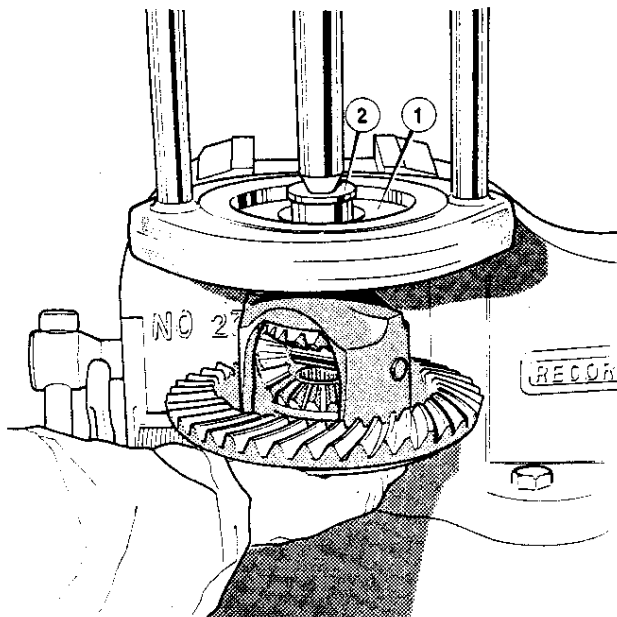

Figure 7 Removal of differential bearing using collars, adapters and hand press
6. Using a hand press, General tool No. 47, and collars RT 8764/1, with adapter RT 8764/2, remove the differential bearings as follows: Feed the differential unit in to the hand press and fit into the cone of the tool. Ensure that the bearing fits securely into the collars and the rollers on the bearing and fit the adapter to the differential unit (**Figure 7**). Supporting the differential unit from below, turn the hand press to remove the bearing. Repeat this operation for the other bearing and take note of the value of the shims behind each bearing if only the bearings are to be renewed.